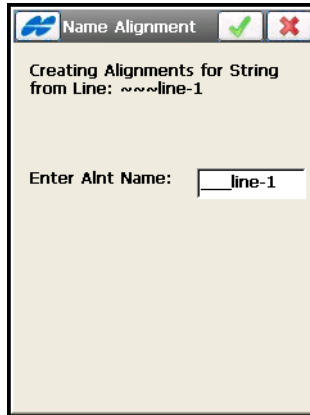

Figure 7-37. Enter Alignment Name
- The ok  button opens a dialog to name the paired alignments for the string (Figure 7-37).